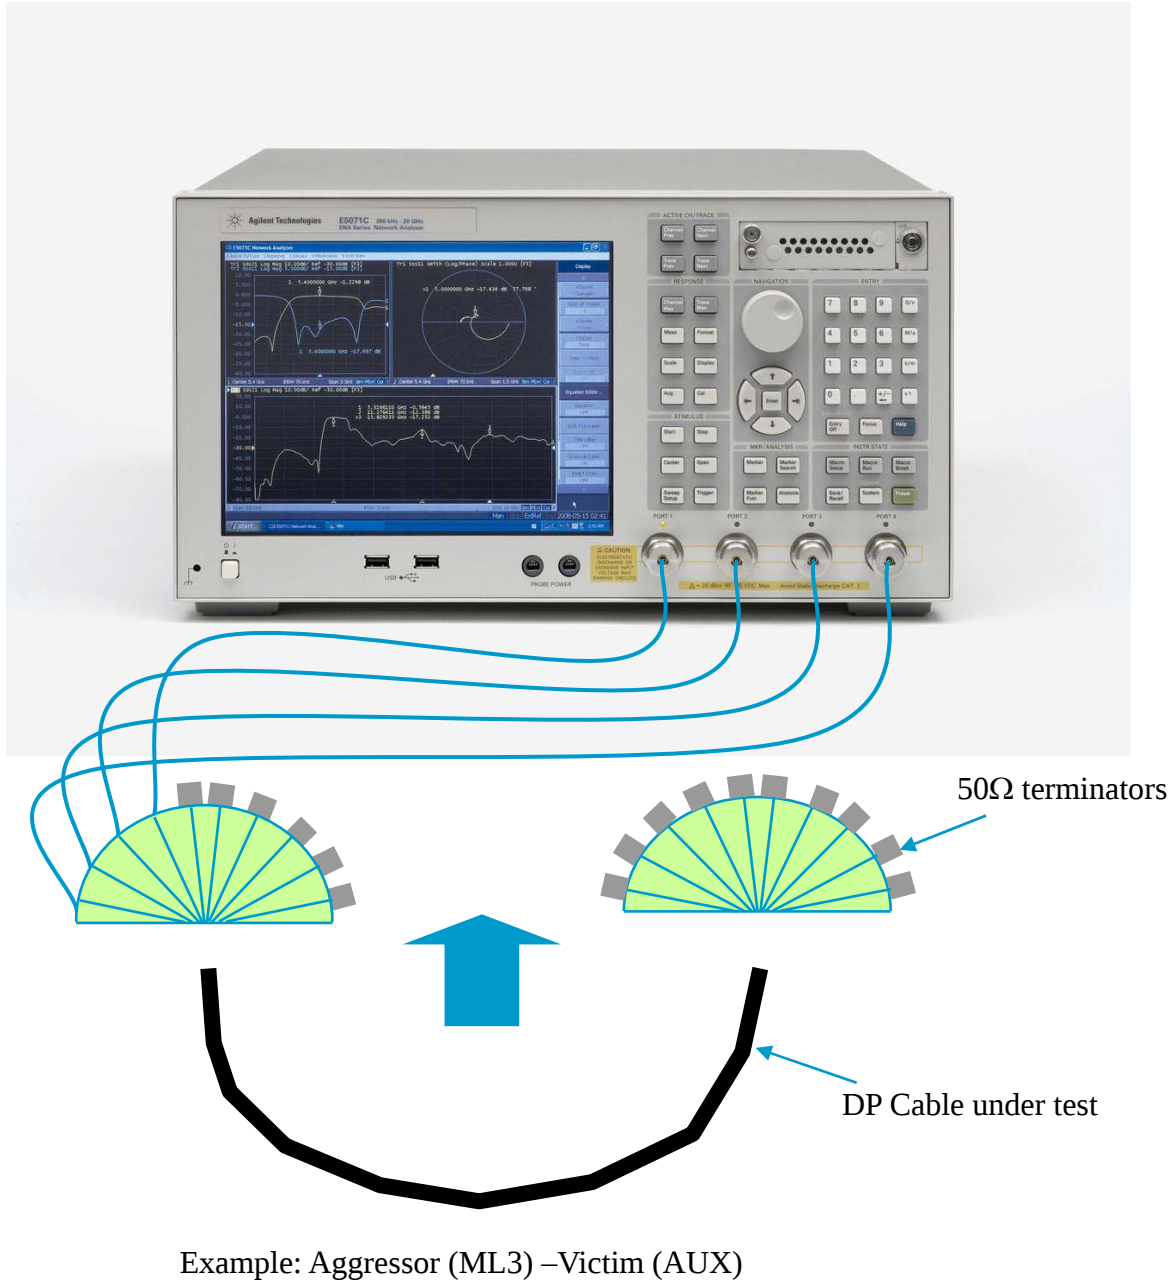

Figure 5.5.1 Connection Example for Near End Noise measurement
1. Connect the test fixture to the test port cables according to the **Figure 5.5.1**. Unused terminals should be terminated.